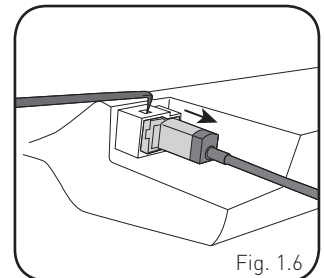

Fig. 1.6
7. Using a pick tool, release the clips at the top and bottom to release the USB, remove USB and disconnect the harness. (Fig. 1.6)